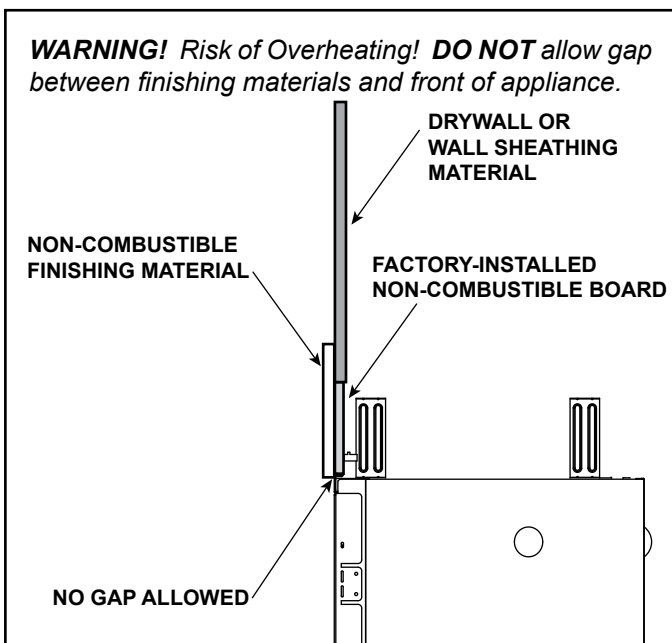
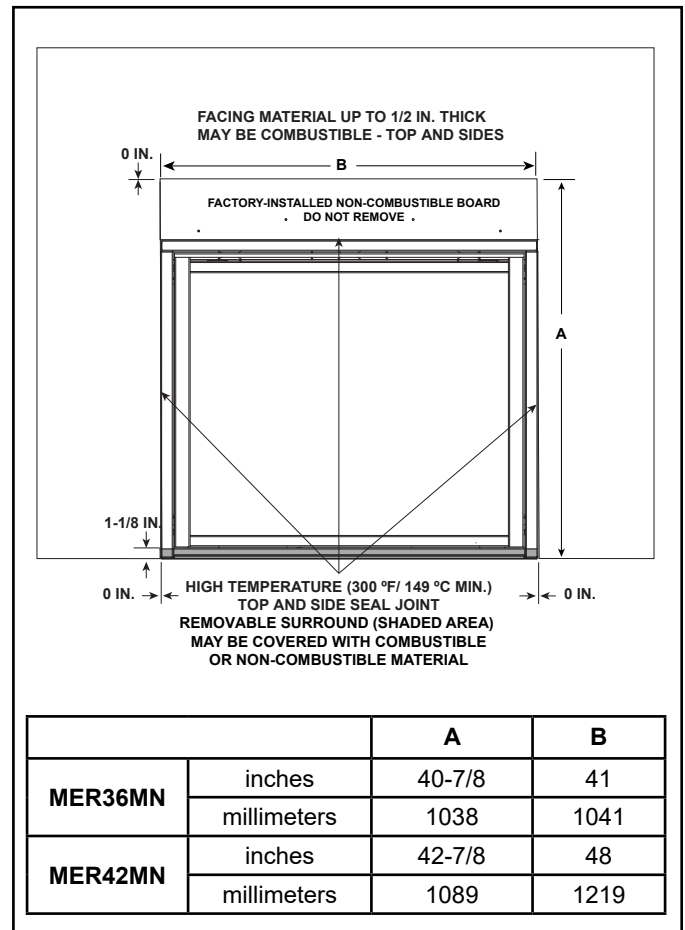

Figure 10.1 Finishing Material Installed
Figure 10.2 Non-combustible Facing Diagram
- Seal gaps between the finished wall and appliance top and sides using a 300 °F minimum sealant. Refer to Figure 10.1 and Figure 10.2.
- Finishing materials must be installed with no gaps in order to prevent the escape of heat between the finishing material and the wall. See Figure 10.1.
1. **Step 1:** Fill all gaps and joints between the non-combustible board pieces and the drywall with a general purpose chemically setting joint compound such as Durabond® 45 Joint Compound manufactured by USG (Sheetrock® brand), recommended by Hearth & Home Technologies. Use a drywall knife to firmly press the joint compound into all gaps. See Figure 10.1. Allow these joints to dry.